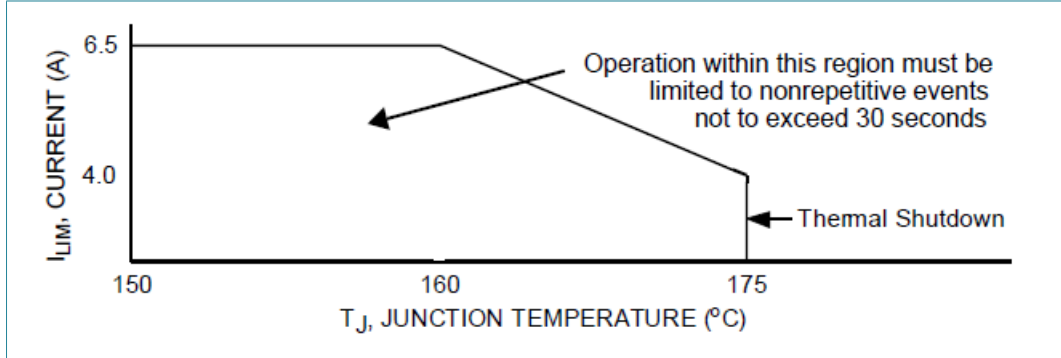
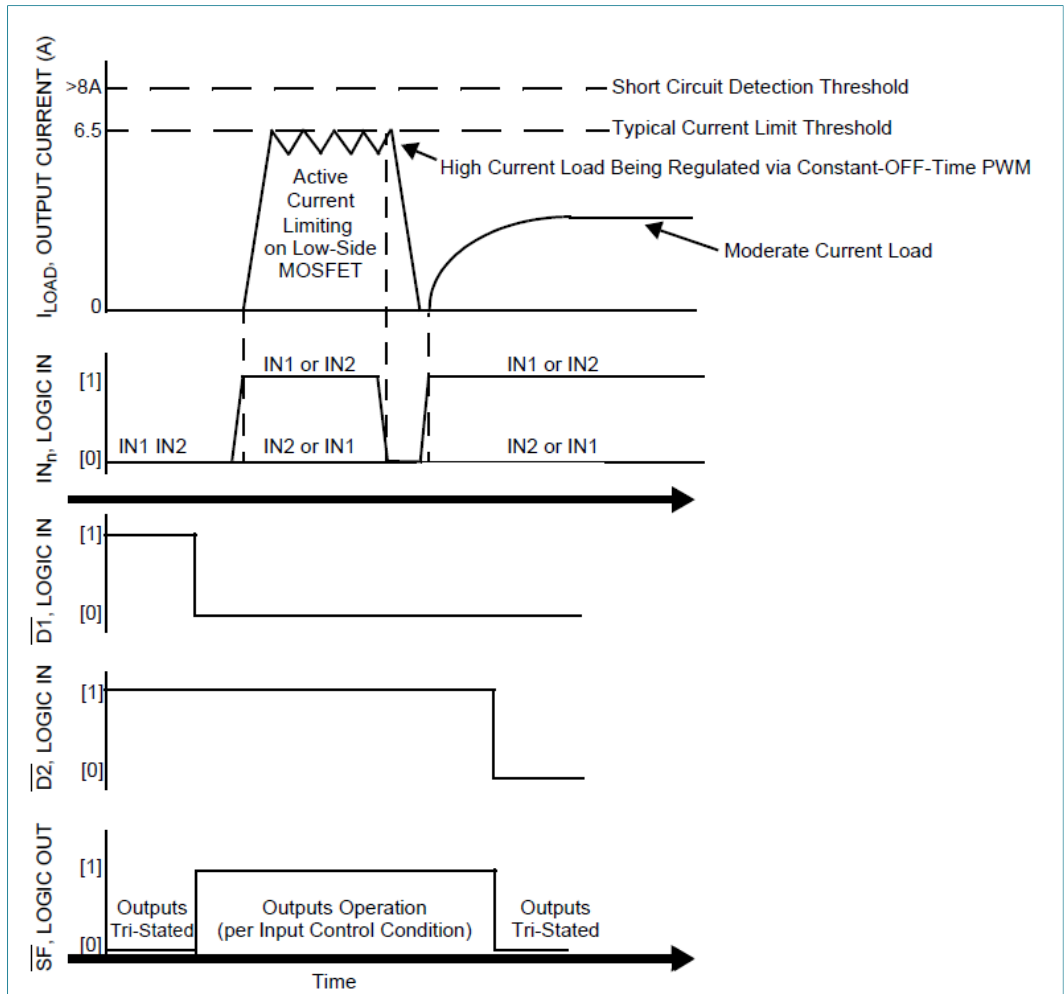

Figure 9. Active current limiting versus temperature (typical)
Figure 10. Operating states
- [5] Load currents ramping up to the current regulation threshold become limited at the I_{LIM} value. The short-circuit current possess a di/dt that ramps up to the I_{SCH} or I_{SCL} threshold during the I_{LIM} blanking time, registering as a short-circuit event detection and causing the shutdown circuitry to force the output into an immediate 3-state latch OFF. See Figure 10 and Figure 11. Operation in current limit mode may cause junction temperatures to rise. Junction temperatures above $\sim 160\text{ }^\circ\text{C}$ causes the output current limit threshold to progressively foldback, or decrease with temperature, until $\sim 175\text{ }^\circ\text{C}$ is reached, after which the T_{LIM} thermal latch OFF occurs. Permissible operation within this foldback region is limited to nonrepetitive transient events of duration not to exceed 30 seconds. See Figure 9.
The current limiting threshold value is dependent upon the device junction temperature. When $-40\text{ °C} \leq T_J \leq 160\text{ °C}$, I_{LIM} is between 5.2 A to 7.8 A. When T_J exceeds 160 °C, the I_{LIM} current decreases linearly down to 4.0 A typical at 175 °C. Above 175 °C the device overtemperature circuit detects T_{LIM} and overtemperature shutdown occurs (see Figure 9). This feature allows the device to remain operational for a longer time but at a regressing output performance level at junction temperatures above 160 °C.